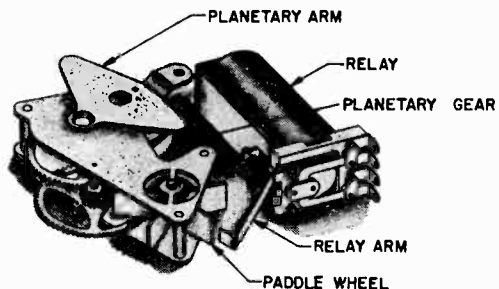

Fig. 3 Manual Tuning Gear Operation (See Fig. 4)
Motor and Control (See Fig. 3)
The Ratchet Pawl and Wheel are used so that the Solenoid can cock the power springs without running the entire gear train in the reverse direction during the return sweep. Notice that the Ratchet also is used when the dial pointer has reached the high end of the band while tuning manually. Then the Planetary Arm has reached the end of its tuning arc and so the planetary pinion tends to be rotated by the Manual Drive Gear (see Fig. 3). This turns the Ratchet Wheel out of the Pawl and allows the pinion gear to turn freely without exerting further force on the Planetary Arm and thereby eliminates any possible damage to the mechanism.
- A. Spring driven gear train begins to sweep. (Fig. 3)
- A. Gear train stops. (Fig. 3)